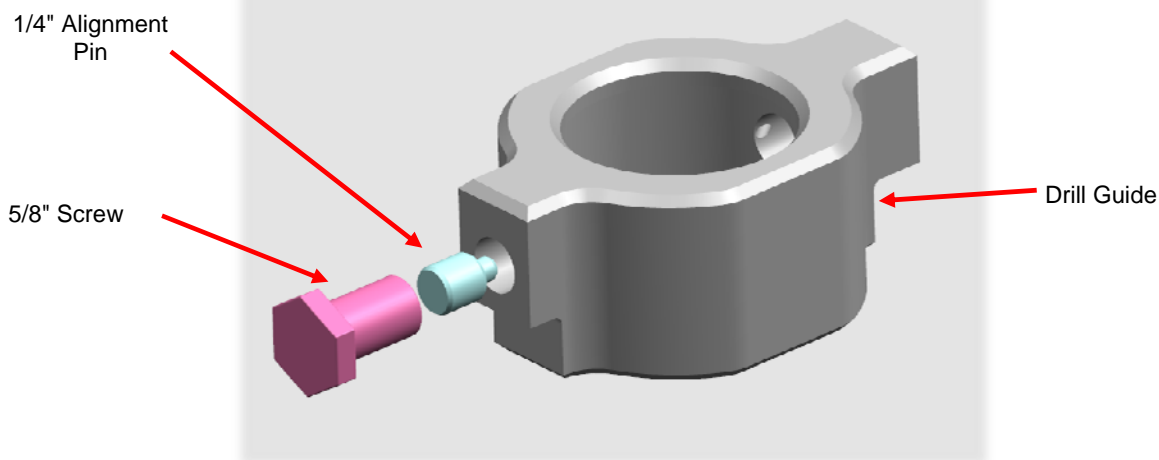

Figure 5-2: Drill Guide Alignment
6. Adjust the alignment of the chrome tube and drill guide to allow the 1/4 inch alignment pin to slip into place in the existing 1/4 inch hole in the chrome tube. Refer to **Figure 5-2**.
8. Install the 5/8 inch screw in the threaded hole behind the alignment pin. Refer to **Figure 5-2**.